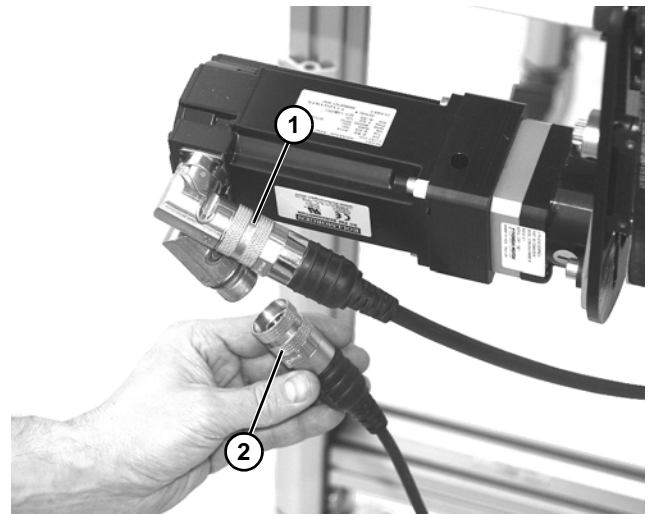

Figure 55
1. Disconnect motor power connector (Figure 55, item 1) and feedback connector (Figure 55, item 2).